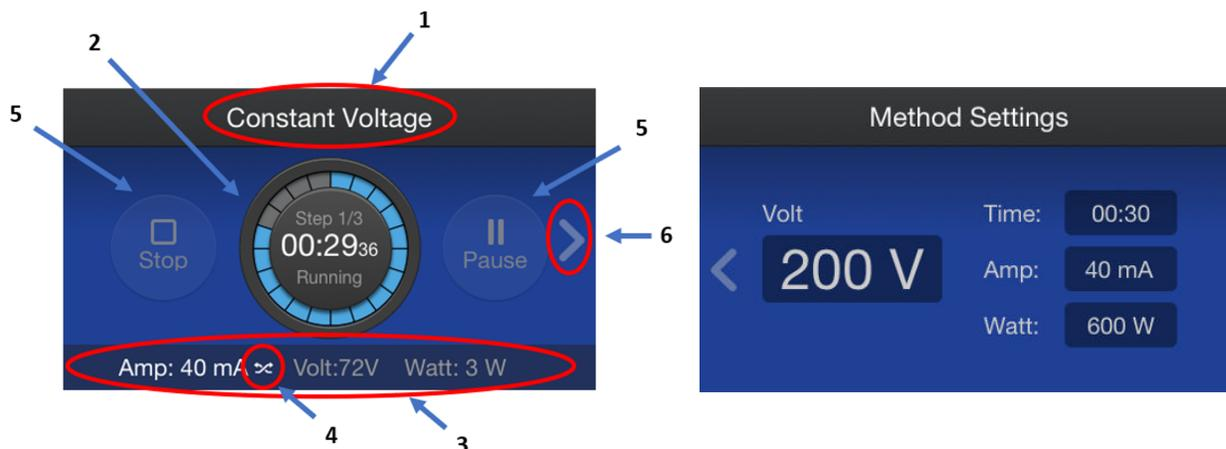

Figure 12 Run screen and Methods Settings screen
7. Touch **Start run** to begin the run. When the run begins, the **Run** screen will display (see Figure 12).
Once the run has started, the **Run** screen will display real time parameter values. To view run parameters as they were set, touch the **right** arrow to view the **Method Settings** screen (see Figure 12).
The name of the method will be displayed at the top of the screen. If the method is an un-named custom method, the name displayed will be the method type (Constant Voltage, Constant Current, or Constant Power). The method displayed in Figure 12 is a custom constant voltage method.
As an example: If the method uses constant voltage of 200 V, but the power supply reaches 500 mA (the power supply maximum) before 200 V is reached, the power supply will automatically switch to a constant current of 500 mA with the voltage floating. If at some point conditions of the run change (resistance increases and current drops) such that 200 V can be delivered with less than the power supply maximum current (500 mA), the power supply will automatically revert back to the set method constant parameter (200 V in this case) and the crossover icon will no longer be displayed. Figure 12 shows a run with crossover to mA and current limited to 40 mA. For additional details, see Appendix A, “Troubleshooting”.
Touch this arrow to display the **Method Settings** screen (Figure 12). This screen shows parameter settings for the step currently being run. From this screen, touch the **left** arrow to return to the **Run** screen.
The **Method Settings** screen (see Figure 12) displays voltage, current, power, and run time for the method. Time is shown in hours : minutes format. If the method has more than one step, there will be a separate method screen for each step. Use the **right** and **left** arrows to move between screens for individual steps.